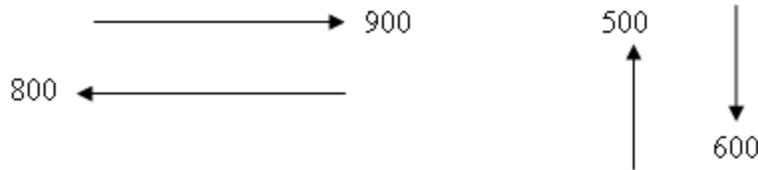

Figure-1. Phase diagram for an intersection
4. a) The Phase diagram with flow values of an intersection is shown in Figure-1 below. The lost time and yellow time for the first phase is 2.5 and 3 seconds respectively. For the second phase the lost in time and yellow time are 3.5 and 4 seconds respectively. If the saturation headway is 2.2 seconds, compute the cycle length for that intersections and find out the green time allocated for the two phase. 8 M